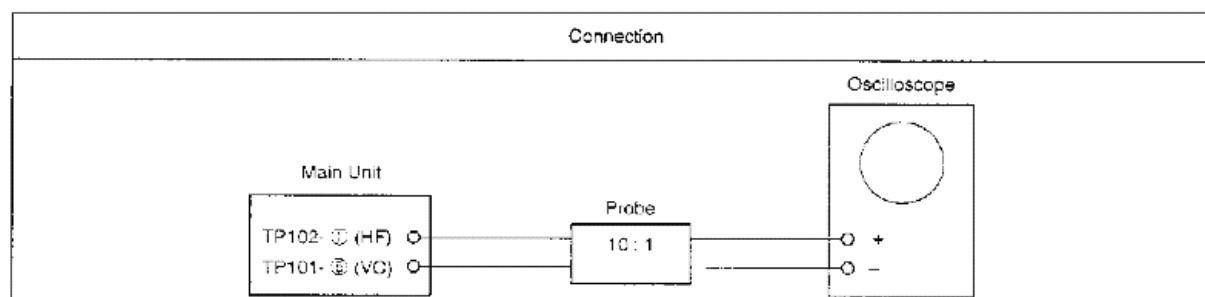

FIGURE 28-11 How to connect the scope for HF level adjustment in a Denon CD player.
Denon CDM-560 HF level adjustment Connect the oscilloscope through a 10-to-1 probe and clip to TP102 to check the HF level waveform (Fig. 28-11). Push the pause control that displays number (03) and play a test CD. Check the HF level of oscilloscope. Confirm that the waveform is in good shape. The diamond shape in the center of HF or EFM